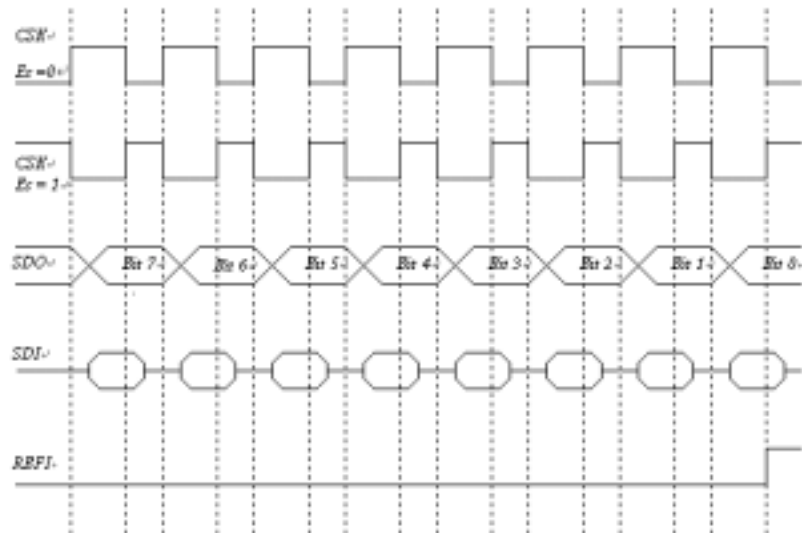
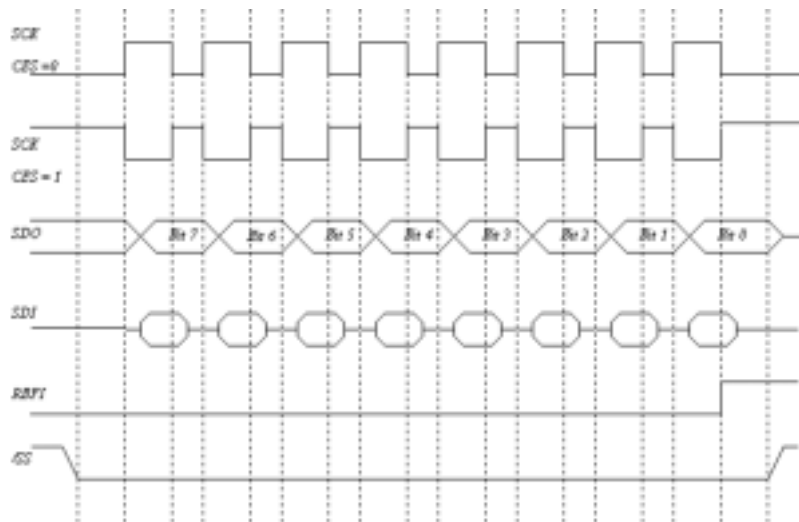

Fig. 13 SPI Mode with /SS Disable
Fig. 14 SPI Mode with /SS Enable
• Timing is shown in Fig.13 and 14.
• Timing is show in Fig.13 and 14
• Timing is shown in Fig.13 and Fig. 14.
The edge of SCK is selected by programming bit CES. The waveform shown in Fig.13 is applicable regardless of whether the EM78P451 is under master or slave mode with /SS disabled. However, The waveform in Fig. 14 can only be implemented in slave mode with /SS enabled.